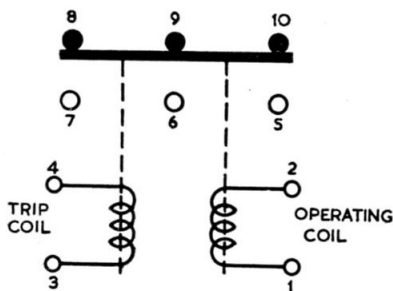

Fig. 1. Circuit diagram
2. A circuit diagram of the relay is given in fig. 1. It is a double-wound relay, with a main operating coil (terminals 1 and 2), and a trip coil (terminals 3 and 4). Contacts 8, 9 and 10 are normally closed, and contacts 5, 6 and 7 normally open.